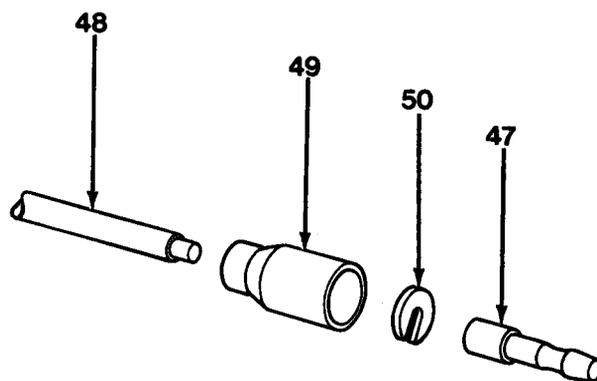

Figure 10-11
2. Slide shell (49) over cable (48, Figure 10-11).
3. Insert cable (48) into terminal (47) well and crimp.
4. Place C-washer (50) over cable (48) at crimped junction and slide shell (49) over C-washer (50) and terminal (47).